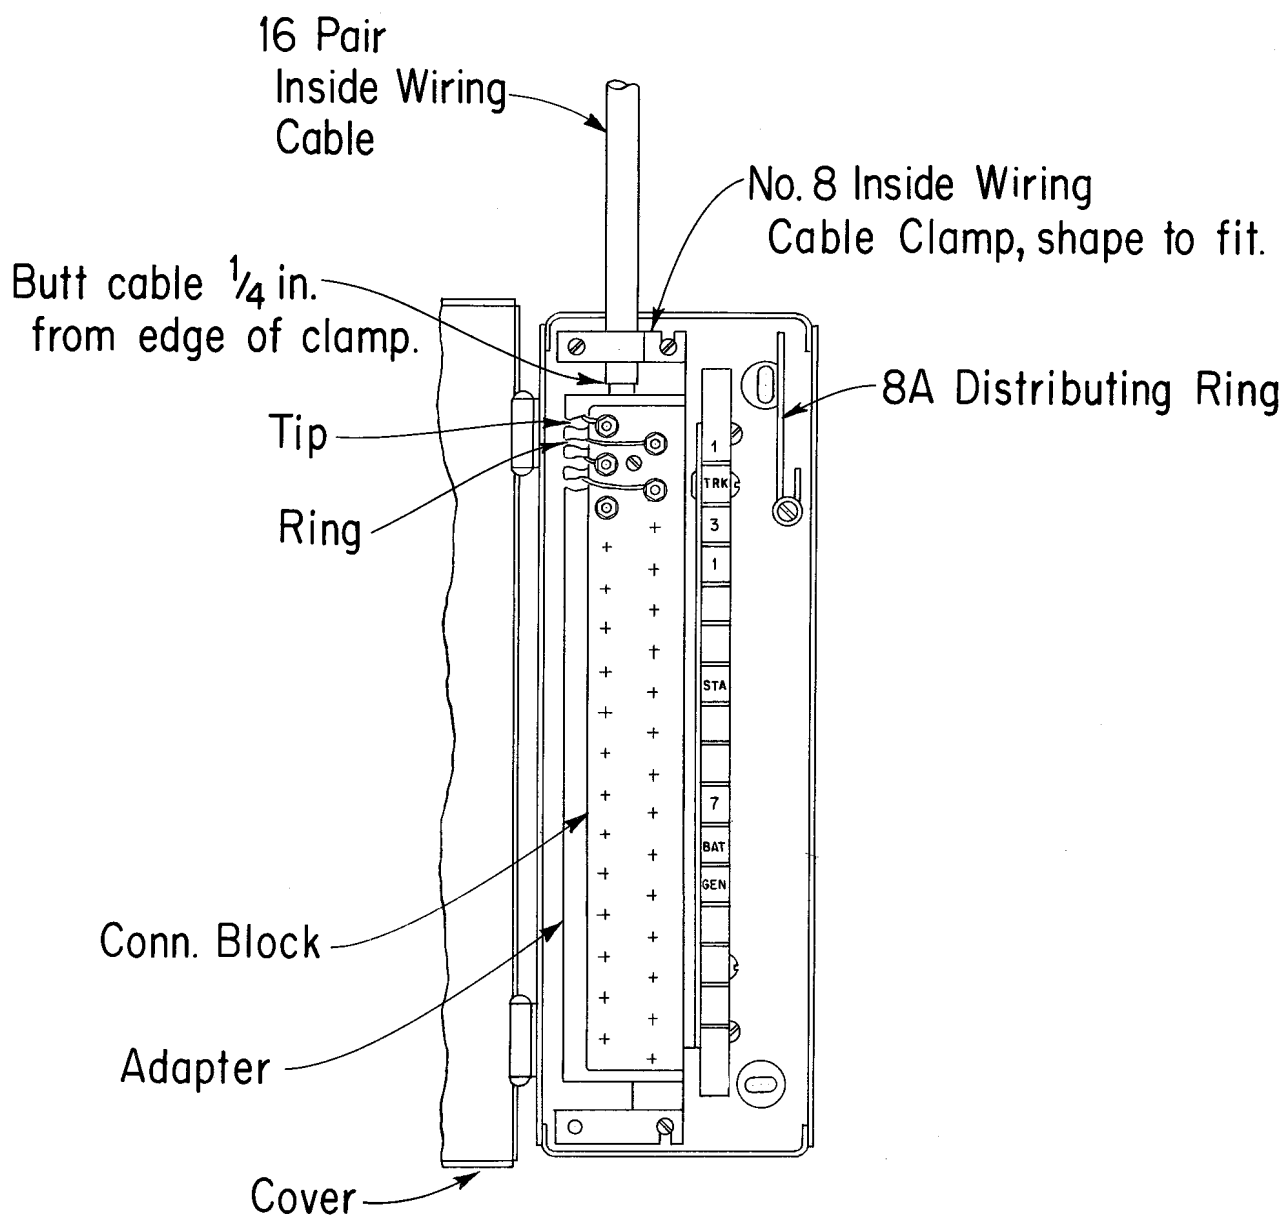

Fig. 1 — Typical Arrangement for 507A PBX with Prefabricated Sheet Metal or Die-Cast Aluminum Chassis
4.04 Install cross-connecting terminal box and place connecting block and adapter in terminal. See Figs. 1, 2, and 3 for typical arrangement.
- 4.06** Strip the end of the cable to be placed in the cross-connecting terminal and butt as shown in Figs. 1, 2, and 3.
- 4.08** Letter and number fanning strips, using 3/16-inch rubber stamps, as shown in Figs. 1, 2, and 3. When connecting blocks are used which have the ring terminal positioned above and to the right of the tip terminal, transpose the designations for single leads.